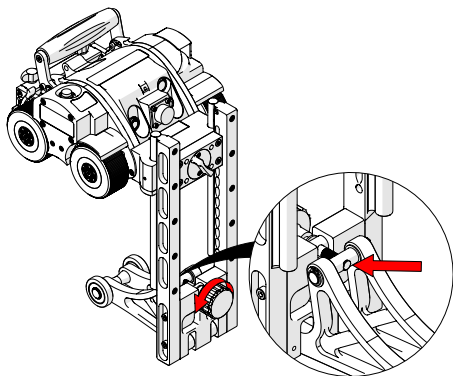

Fig. 3 - Adjust red knob to align threads with pin
1. Rotate the fine adjustment knob counterclockwise until the threads are aligned flush with the pin (Fig. 3).